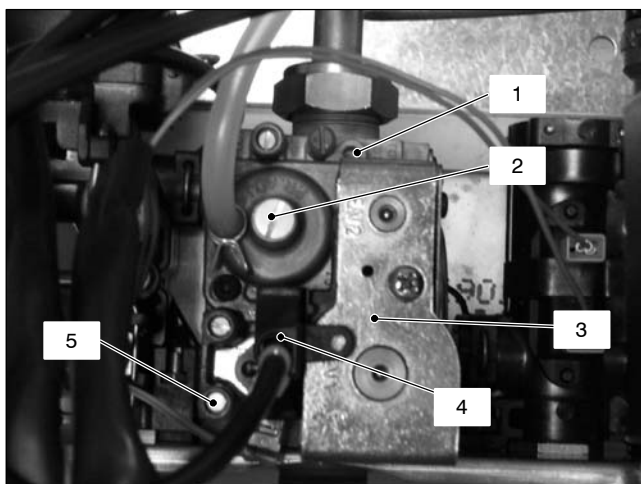

Fig. 11.2
### 11.2 Description of the parts (Fig. 11.2)
- 3 Loosen the internal screw on the Inlet Pressure Test Point 5 (Fig. 11.2) of the Gas valve and connect a pressure gauge using a suitable hose.
- 10 Disconnect the pressure gauge and close the Inlet Pressure Test Point 5 (Fig. 11.2).
- 21 Read the CO2 % value. It should be between 9,0 and 9,8 % (natural gas G20) or between 10,0 and 11,0 % (LPG G31). To adjust the CO2 % value remove the brass plug by unscrewing it and rotate the Allen key screw  $\varnothing$  4 mm (2 – Fig. 11.2) (by rotating it clockwise the CO2 % increases).
- 24 Read the CO2 % value. It should be between 9,0 and 9,8 % (natural gas G20) or between 10,0 and 11,0 % (LPG G31). To adjust the CO2 % value rotate screw (1 – Fig. 11.2) (by rotating it clockwise the CO2 % decreases).
- 27 After adjustment fit the protective brass plug (2, Fig. 11.2).
- 2 Disconnect the electrical connector 4 (Fig. 11.2).